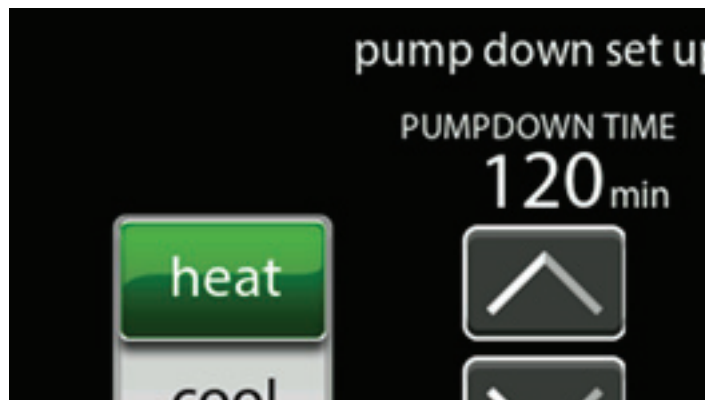

Fig. 22 – Pump Down Setup Screen
3. Pump down in COOL mode allows refrigerant to be isolated in outdoor unit. Set desired time period. Default time period for the procedure is 120 minutes. See Fig. 22.